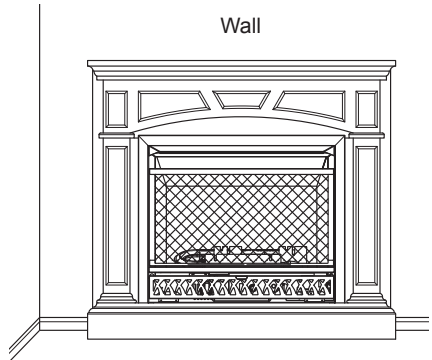

Figure 35
7. Position the fireplace to the desired location as shown in Figure 35.